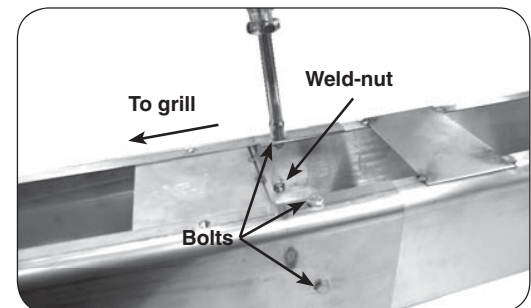

Fig. 18-2 Fasten extension to post
2. From outside the joined post and extension, insert one of the  $\frac{1}{4}$  X 20"-5/8 bolts (supplied) into each of the five (5) bolt holes and tighten each using a  $\frac{7}{16}$ " socket driver or wrench (see Fig. 18-2).